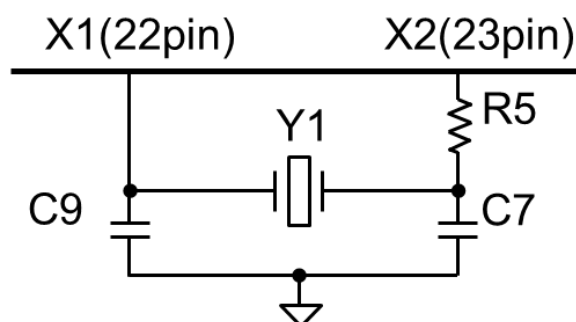

Figure 2-4 Crystal oscillator circuit connection example
- Figure 2-4 shows a connection example of the crystal oscillator circuit.